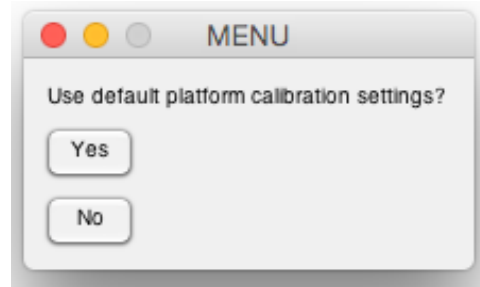

Figure 2.1 Load Platform Calibration Settings Menu. Default parameters for a GE Logiq Book e ultrasound are loaded as the default settings.
4. Load the platform calibration settings file (Figure 2.1).